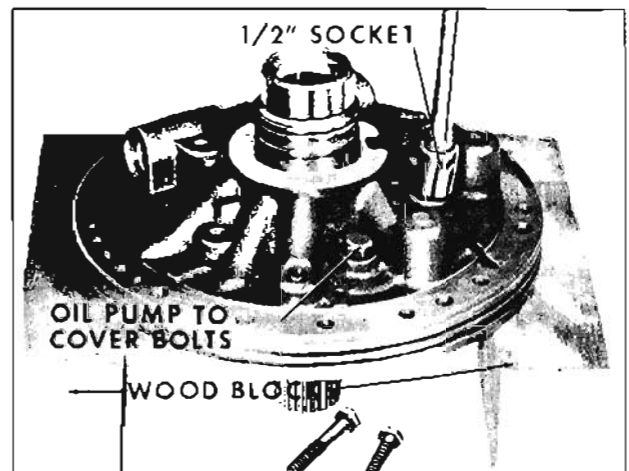

Fig. 6-323 Removing Oil Pump Cover Attaching Bolts
4. Support oil pump on wood blocks. Remove five pump cover bolts with 1/2" socket. Remove pump cover. (Fig. 6-323)